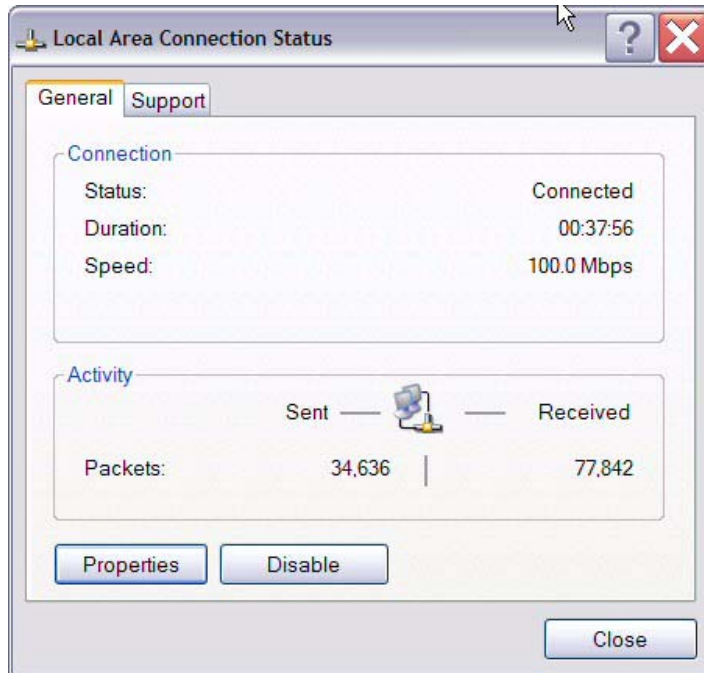

Figure 12. Local Area Connection Status Window
2. In the panel labeled **LAN or High-Speed Internet**, double-click the **Local Area Connection** icon. The **Local Area Connection Status** window appears, see Figure 12.